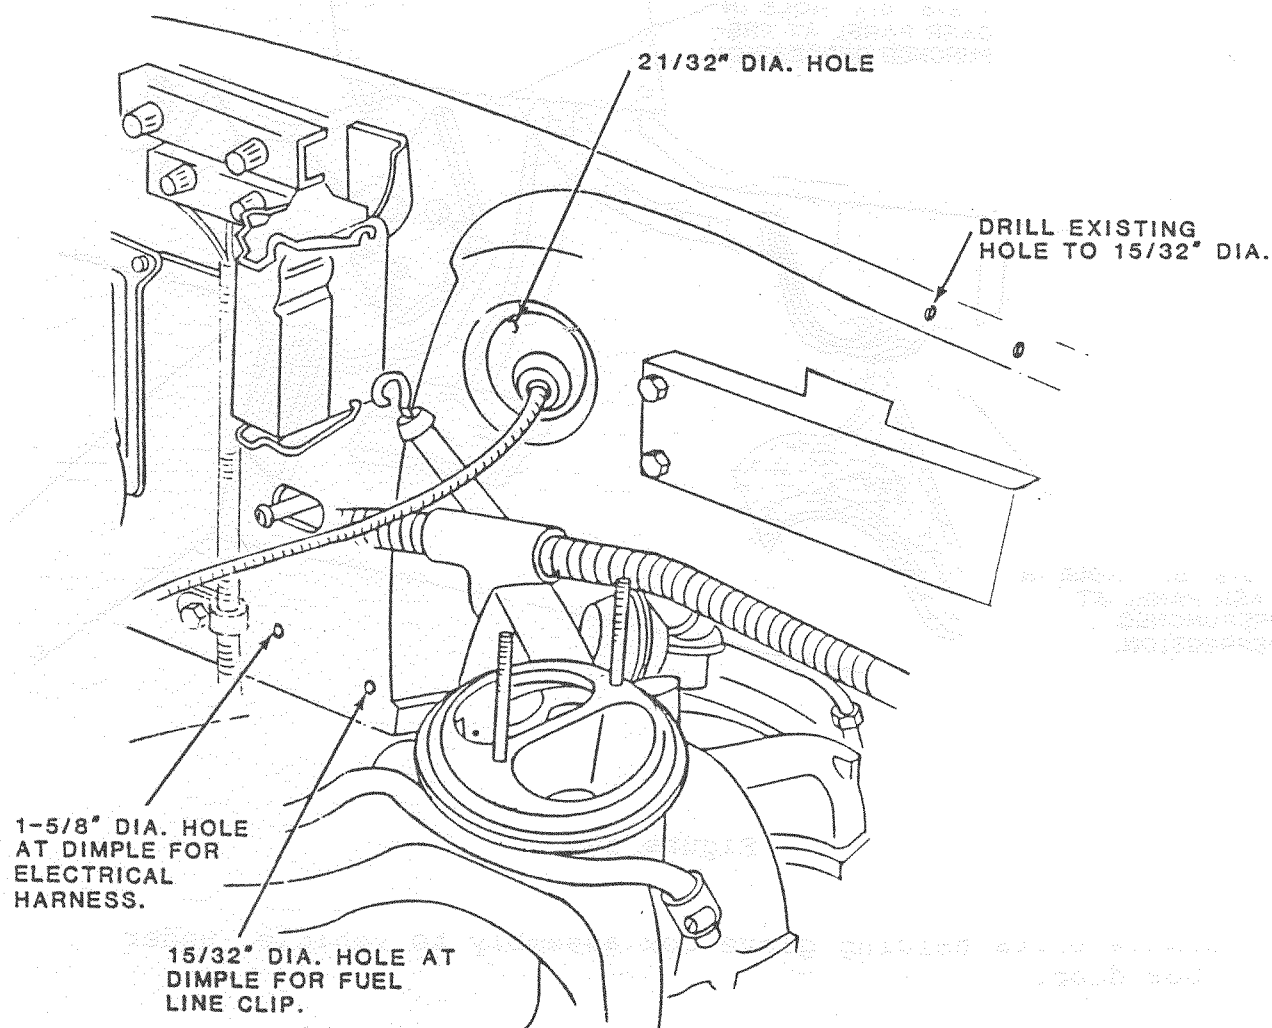

Figure 9.
66. Locate and drill holes on right firewall in prepunched depressions (Figure 9.). Remove existing clip in right firewall and drill existing washer retainer hole to 15/32 inch.